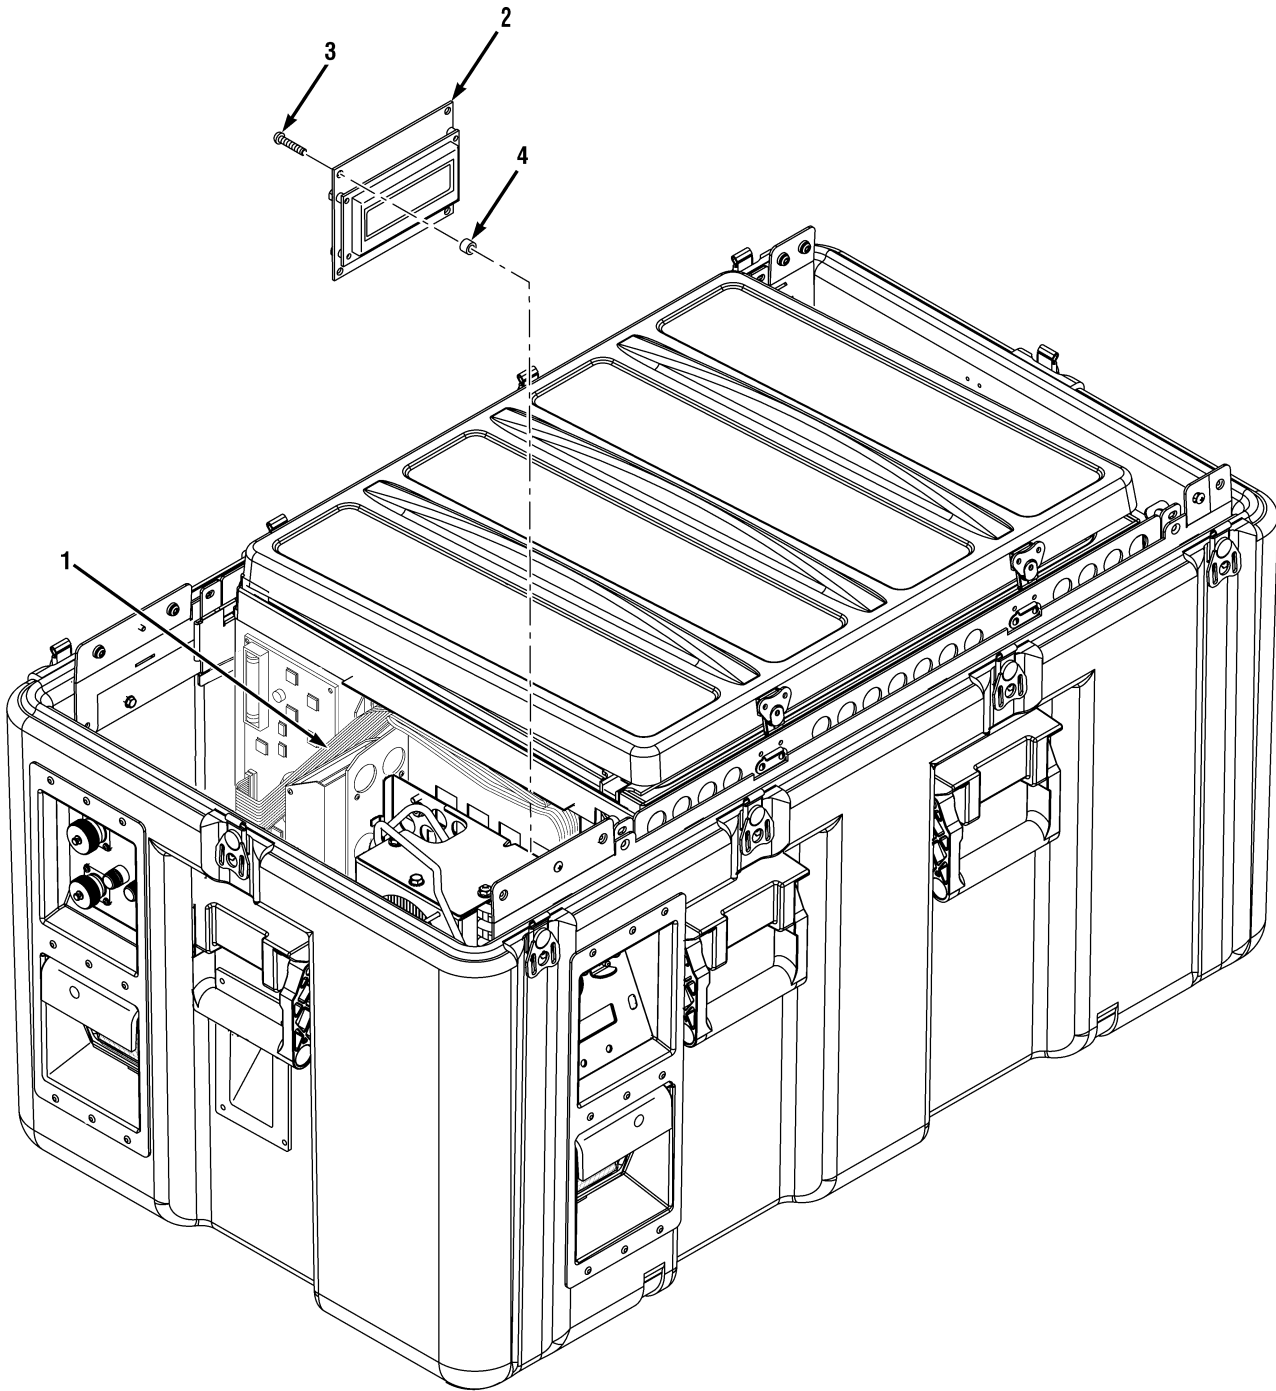

Figure 2-12. Replacement of Display Main PC Board
- (4) Remove the two screws from the data port located at the top, right corner of the display panel.
- (5) Detach the ribbon cable (1, Figure 2-12) from the display board (2) by releasing the lock latches outward, then pulling the ribbon cable straight out.